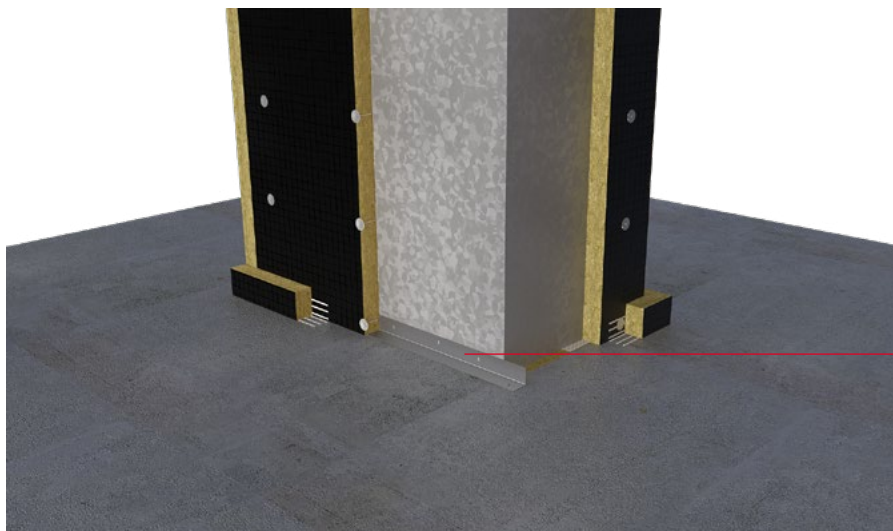

Figure 11b
2. Secure the duct to the floor structure using 4No. 50 x 50 x 45 x 2.5mm galvanised steel angles to both sides of the aperture. The angles can be fixed using 2No 3.2 x 25mm self-tapping screws. Alternatively, the duct can be secured with a 40 x 40 x 3mm L profile as shown in Figure 11b. The length of the L profile should be equal to the width of the duct and installed to both sides (duct width).